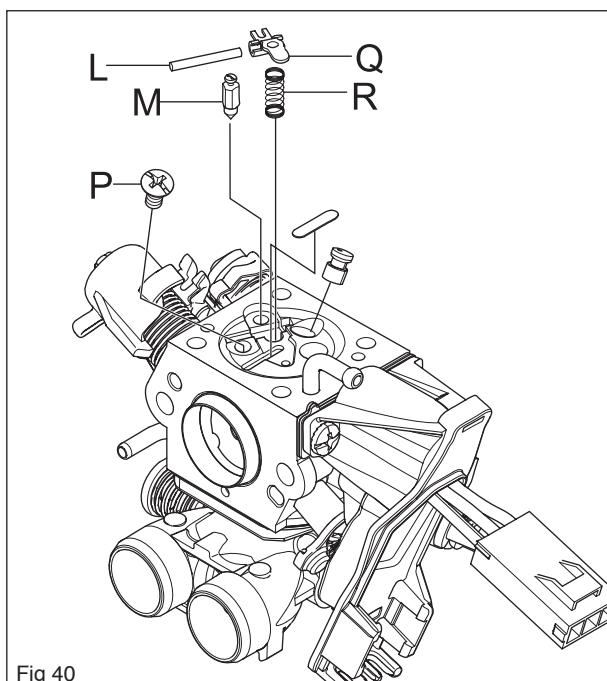

Fig 40
- Assemble needle valve M with lever arm Q, shaft L and spring R, and tighten screw P. (Fit the expansion washer). See figure 40.